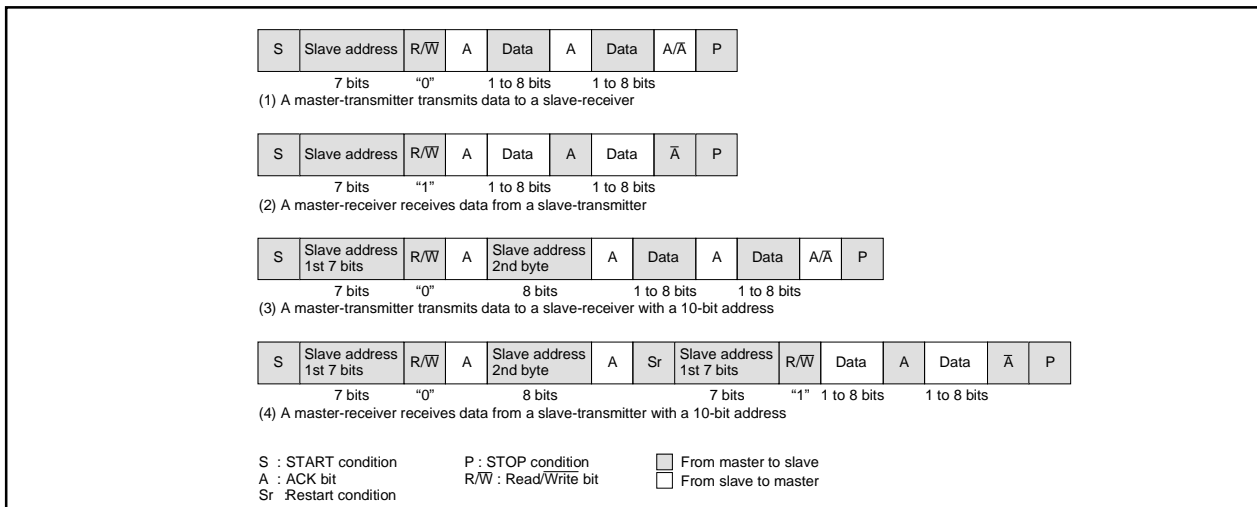

Fig. 2.11.41 Address data communication format
To meet the 7-bit addressing format, set the 10BIT SAD bit of the I²Ci control register to “0.” The first 7-bit address data transmitted from the master is compared with the high-order 7-bit slave address stored in the I²Ci address register. At the time of this comparison, address comparison of the RBW bit of the I²Ci address register is not made. For the data transmission format when the 7-bit addressing format is selected, refer to Figure 2.11.41, (1) and (2).
When the first-byte address data matches the slave address, the AAS bit of the I²Ci status register is set to “1.” After the second-byte address data is stored into the I²Ci data shift register, make an address comparison between the second-byte data and the slave address by software. When the address data of the 2nd bytes matches the slave address, set the RBW bit of the I²Ci address register to “1” by software. This processing can match the 7-bit slave address and R/ \bar{W} data, which are received after a RESTART condition is detected, with the value of the I²Ci address register. For the data transmission format when the 10-bit addressing format is selected, refer to Figure 2.11.41, (3) and (4).
(11) Example of Master Transmission